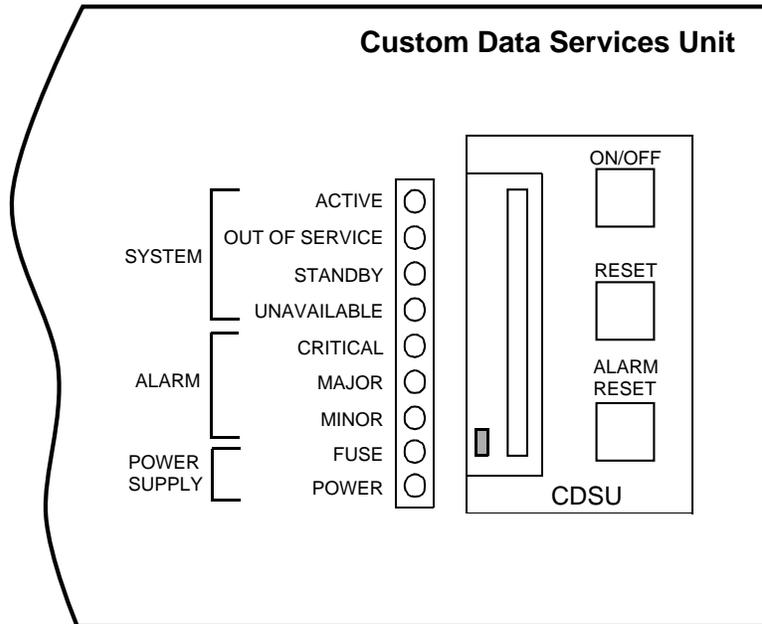

Figure 15. CDSU-I Control Panel
- CDSU-I Control Panel (Figure 15)